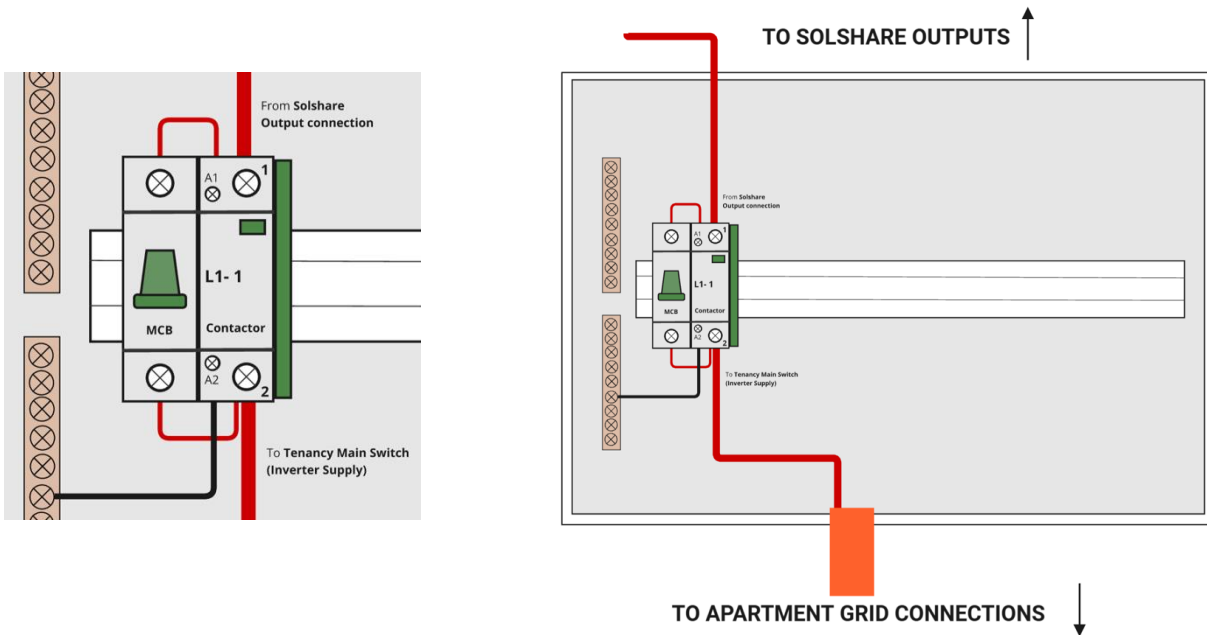

Figure 3. Contactor Coil Wiring
2. Connect the contactor's control coil terminal, labelled "A1", to the contactor's grid input terminal, labelled "2," by utilising the 1A MCB provided as part of the SolShare Isolation Kit, as shown in Figure 3.
3. Connect the coil's (A2) neutral connection to the neutral bar in the isolation box using appropriately sized cables, as shown in Figure 3. Ensure the neutral bar in the enclosure is linked back to the main neutral bar at the main switchboard (MSB) that has the Multiple Earthed Neutral (MEN) link.